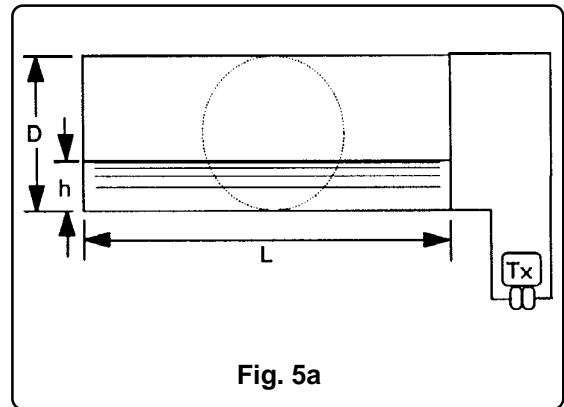

Fig. 5a
a) Cylindrical vessel with flat ends (not often used. Fig. 5a). Transmitter measuring the whole vessel height.